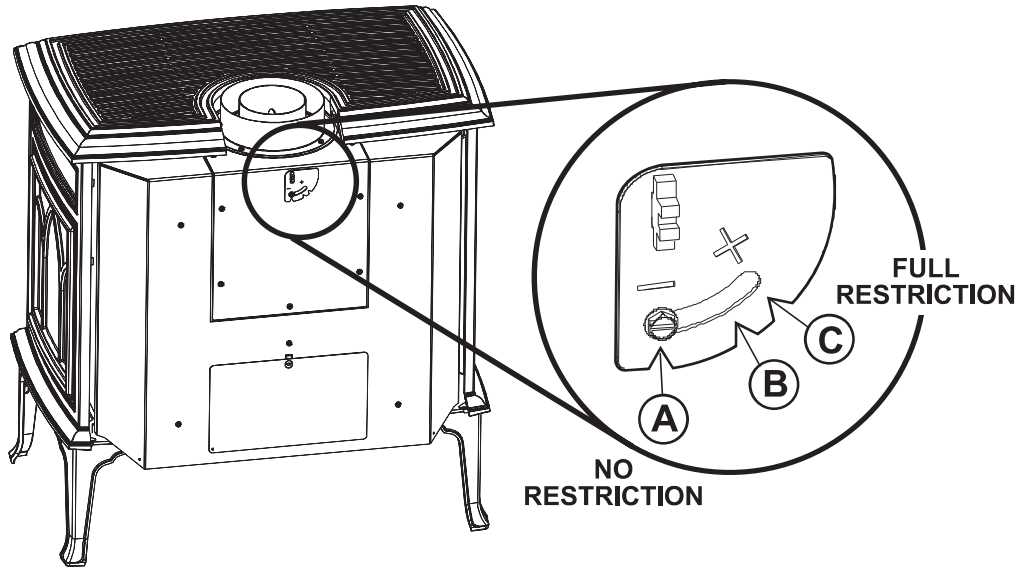
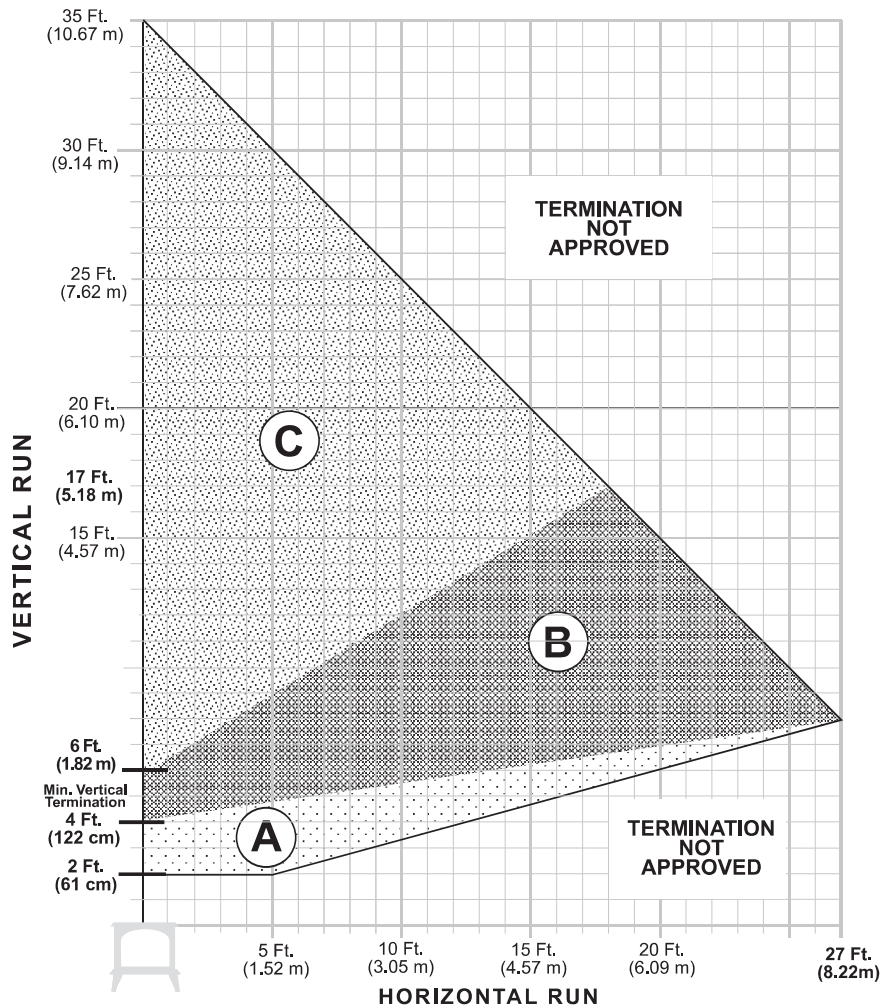

Figure 14. Use 1/4" socket driver to loosen the Exhaust Restrictor dial and adjust to the appropriate notch for your termination zone.
Figure 15. Vent Termination Zone Matrix - NG / LP
The Exhaust Restrictor is an adjustable plate located within the firebox exhaust outlet. It is adjusted by rotating the dial at the back of the stove within a range from the factory-set, fully OPEN (no restriction) to fully full restriction. See Fig. 14. The Minus and Plus signs on the dial relate to degrees of restriction, from zero to approximately 70%. The three lettered positions correlate to the termination zones (A,B,C) diagramed in figure 15. Use the diagram to determine the degree of restriction and shutter setting you should use.
3. Locate the restrictor adjustment dial on the top of the exhaust outlet. Use a 1/4" nut driver to loosen the lock nut and pivot the dial to the position appropriate to your termination zone. See figs. 14 and 15.
The circled letter designations in the vent matrix in figure 15 correspond to the Exhaust Restrictor dial settings on the stove. First, determine which vent termination zone is appropriate for your installation, then adjust the restrictor to the corresponding position as shown in figure 15.
- The termination should fall within the shaded areas of the grids depicted in the Vent Matrix, fig. 15, page 11.
- Any horizontal termination must fall within the shaded portion of the vent window matrix shown in fig. 15.